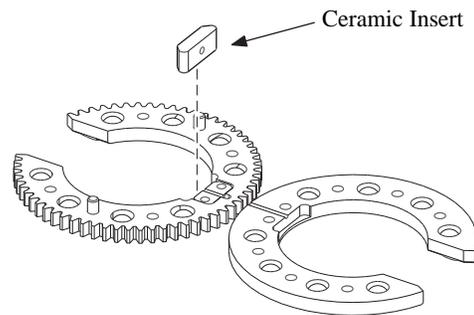

Figure 34 Removing The Ceramic Insert
7. Remove the ceramic insert. See Figure 34.